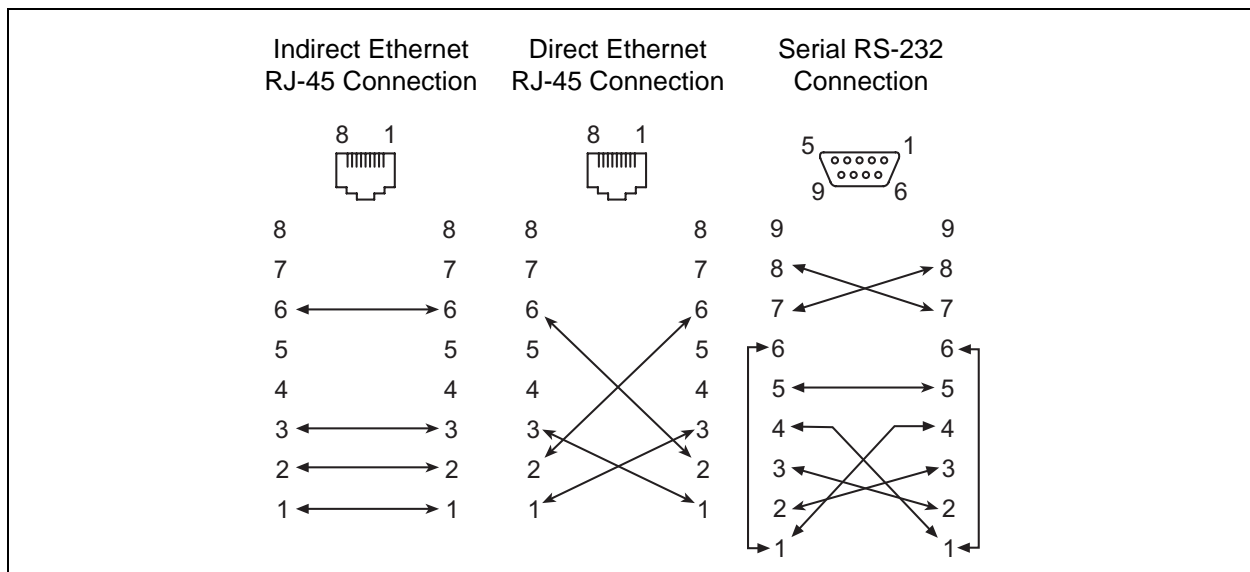

Figure 4-6 Workstation Cable Connections
- Indirect Ethernet connection from the management workstation to the switch RJ-45 Ethernet connector through an Ethernet switch or a hub. This requires a 10/100 Base-T straight cable as shown in Figure 4-6.
- Direct Ethernet connection from the management workstation to the switch RJ-45 Ethernet connector. This requires a 10/100 Base-T cross-over cable as shown in Figure 4-6.
- Serial port connection from the management workstation to the switch RS-232 serial port connector. This requires a null modem F/F DB9 cable as shown in Figure 4-6.